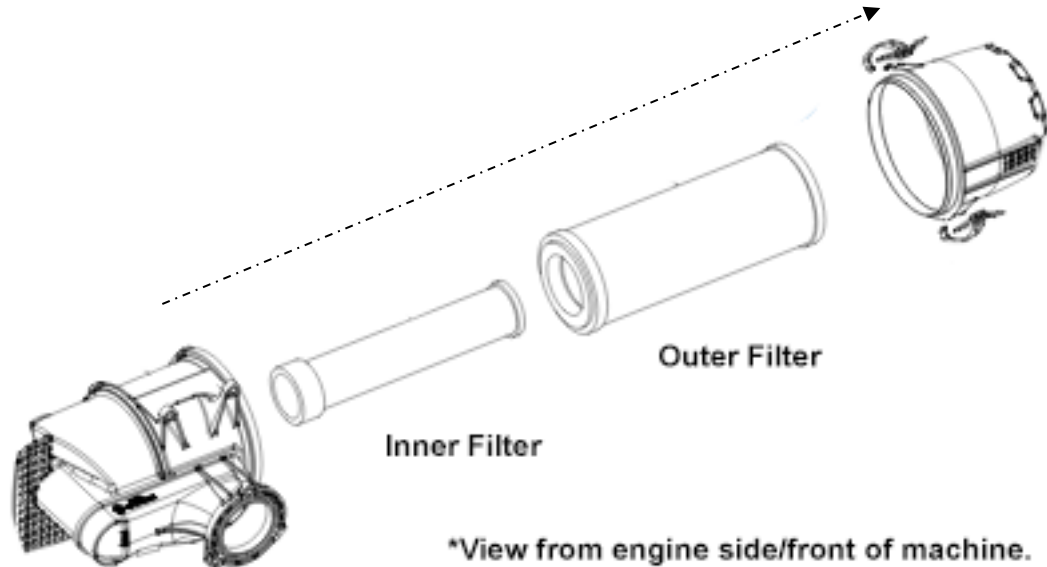

Fig 22
1. (Fig 22) The machine has two cylindrical air filters, one inside the other. Remove the back panel of the machine using the four thumb screws. On the left side of the engine remove the air filter cover. Due to space constraints you must remove both air filters at the same time, outer and inner. Grab the large outer most air filter and gently wiggle up and down while slowly pulling it to the left side of the machine. This motion should also loosen the inner most air filter. Reverse the instructions to insert a new filters.